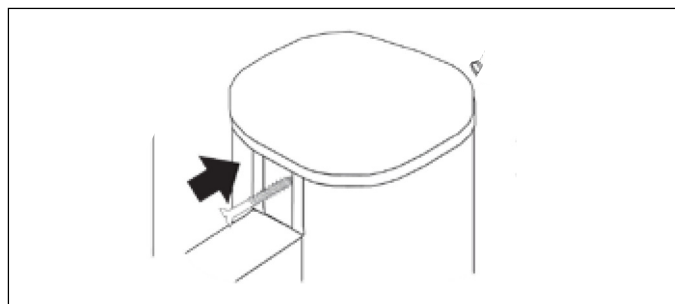
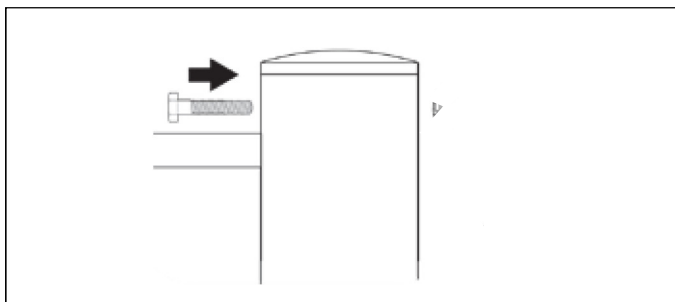

Figure 13
Figure 14
- B. Push the post cap in place and push the bolt through using the outer hexagonal nut to secure. See **Figure 13** & **Figure 14**.